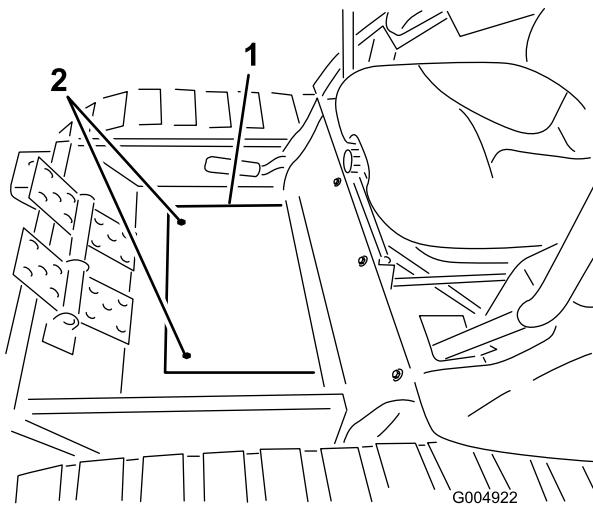

Figure 74
3. Remove the two capscrews securing the floor plate cover and remove the cover (Figure 74).